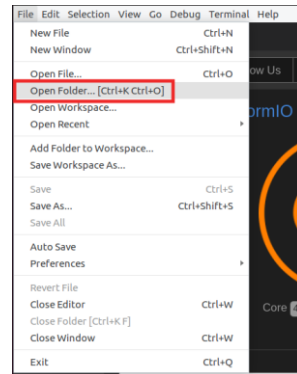

Figure 33. Open Folder
- On the top menu bar, click on *File* → *Open Folder* (see Figure 33) and browse into directory `[RVfpgaPath]/RVfpga/examples/`